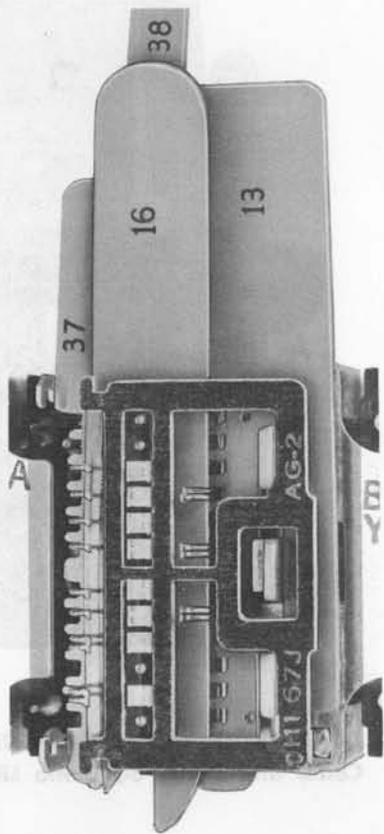

Fig. 11—Detail 16 Lifter in Place With Detail 13 Comb, Detail 37 Comb, and Detail 38 Comb Lifter
4.16 With the taper of detail 16 lifter facing to the right, place the lifter behind the card inserting it between the right movable twin contact springs and the fixed single contact springs as shown in Fig. 11. Push the lifter down until all the movable contact springs are lifted in pairs between the teeth of the detail 13 comb.